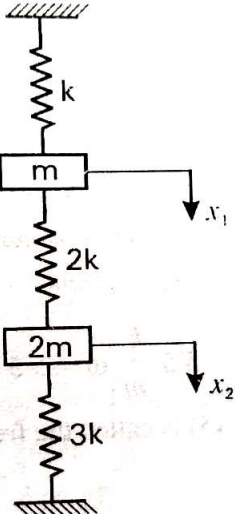

Fig. 7b
- b. Determine the following from Fig. 7b;